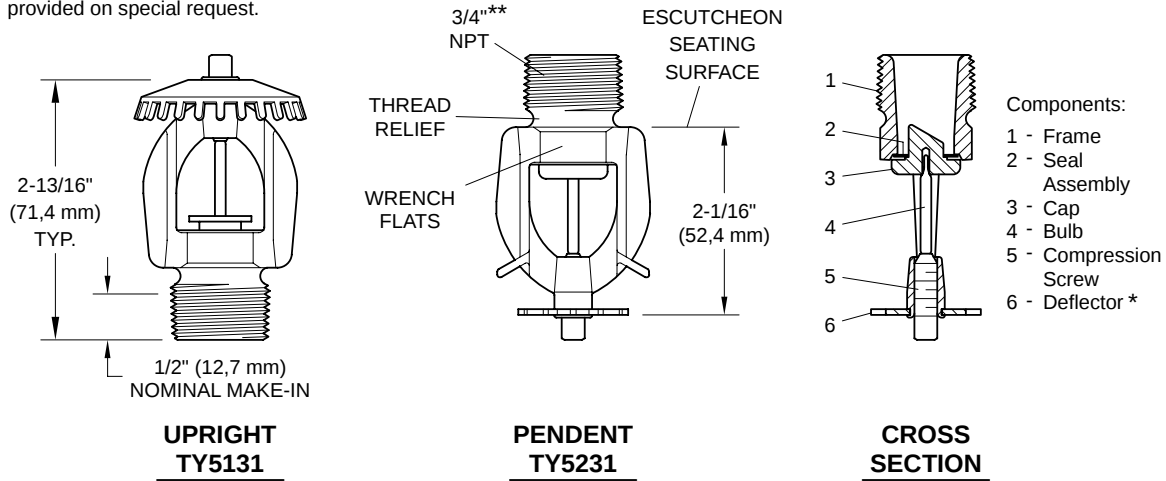

FIGURE 1
The 11.2 K-factor, Series ELO-231FRB, Quick Response, Standard Coverage, Upright and Pendent Sprinklers (Ref. Figure 1) are automatic sprinklers of the frangible bulb type. They are "quick response - spray sprinklers" that produce a hemispherical water distribution pattern below the deflector.
Step 3. Tighten the sprinkler into the sprinkler fitting using only the W-Type 3 Sprinkler Wrench (Ref. Figure 2). With reference to Figure 1, the W-Type 3 Sprinkler Wrench is to be applied to the wrench flats.